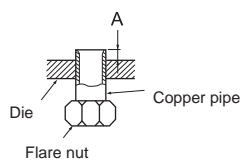

Fig. 5
- Insert the drain hose all the way to the base of the drain pan (end connection). (Fig. 5)